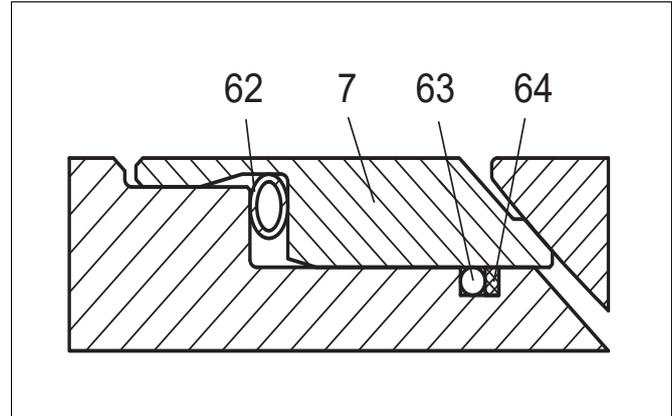

Fig. 11 T and S seats
- ❑ Place the back seals (63) into their position to the body grooves. See Figure 11.
- ❑ Place the back-up rings (64) made of PTFE strips at the side of the O-ring. To ensure that the seam becomes flexible, the strip must have slanted ends.
- ❑ Place the spring (62) into the groove in the seat (7). Connect the ends of the spring.